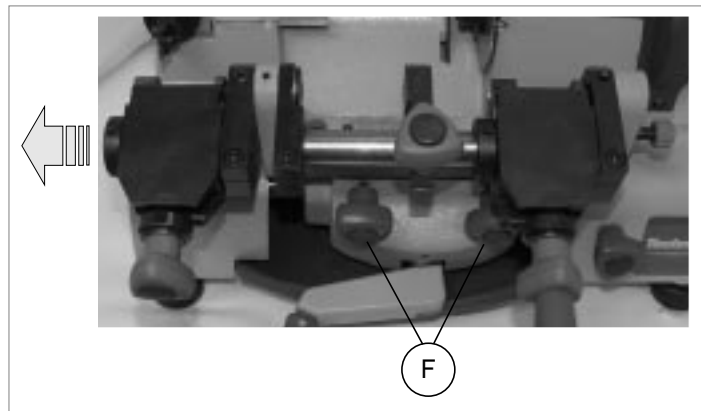

Fig. 21
- 1) Loosen the 2 knobs (F) (fig. 21) y two turns and remove the carriage, pulling it to the left.
- 2) Fit the new carriage from left to right, into the dovetail groove, taking it all the way in, then secure by tightening the 2 knobs (F).